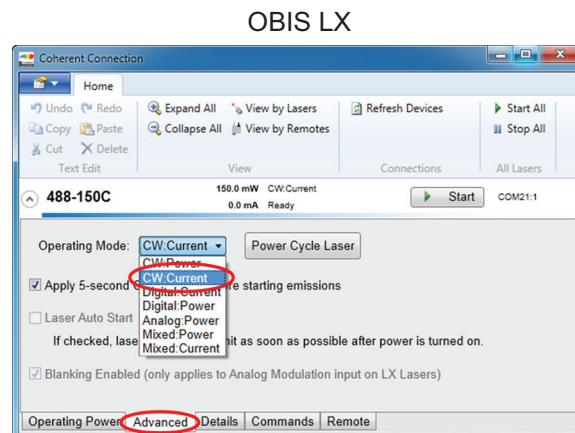

Figure 6-4. Select CW:Current Mode
2. In the Coherent Connection software, go to the **Advanced** tab and select **CW Current** mode in the *Operating Mode* drop-down menu, as shown in Figure 6-4.